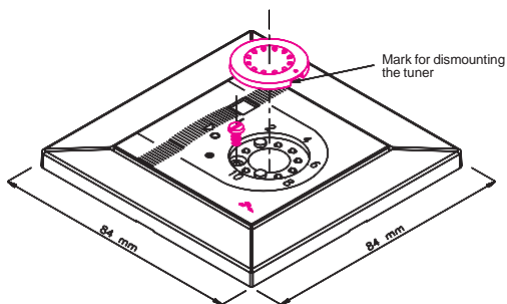

Fig. 1
2. Detach the thermostat cover from the electronic part by first removing the setting button with a small screwdriver, and then removing the screw underneath, see fig. 1.